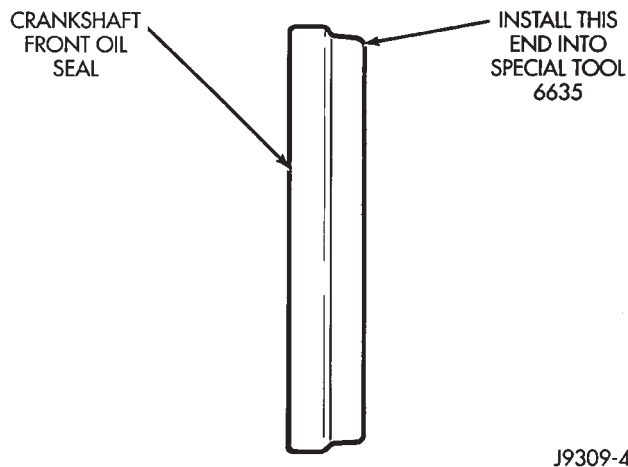

Fig. 34 Placing Oil Seal on Installation Tool 6635
(3) Place the smaller diameter of the oil seal over Front Oil Seal Installation Tool 6635 (Fig. 34). Seat the oil seal in the groove of the tool.